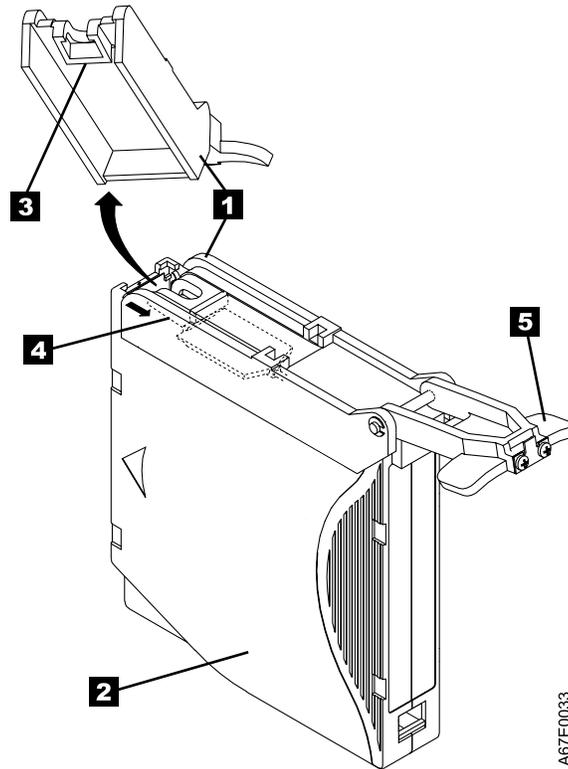

Figure A-8. Attaching the leader pin attach tool to the cartridge. To hold the cartridge door open, hook the tool into the door and pull the tool back.
1. Attach the leader pin attach tool (**1** in Figure A-8) to the cartridge (**2**) so that the tool's hook (**3**) latches into the cartridge's door (**4**). Pull the tool back to hold the door open, then slide the tool onto the cartridge. Open the tool's pivot arm (**5**).